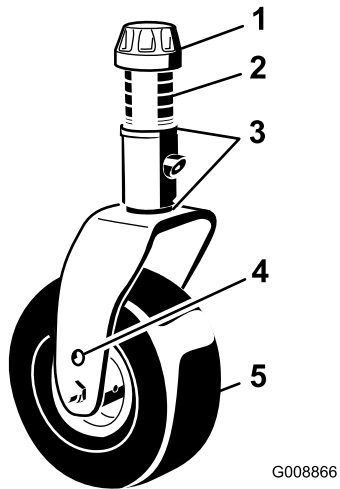

Figure 138
1. Remove the tensioning cap from the caster-spindle shaft and slide the spindle out of the caster arm (Figure 138).
Remove the tensioning cap and caster fork (Figure 138).